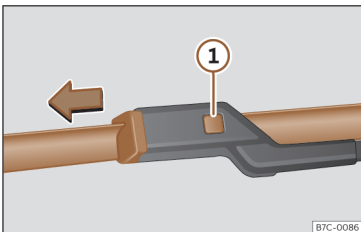

Fig. 209 Changing the windscreen wiper blades
- Press and hold release button >>> **Fig. 209** ① and pull gently on the wiper blade in the direction of the arrow.